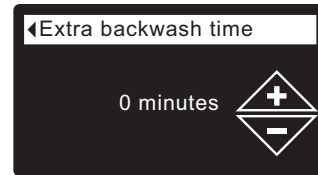

FIG. 84
- 8a. **Extra backwash time:** The backwash time during regeneration is determined by the electronic controller. However, if you experience salty tasting water after regeneration, you may want to increase it. Press the UP (▲) button to add minutes, up to 15, of extra backwash time (See Figure 84).